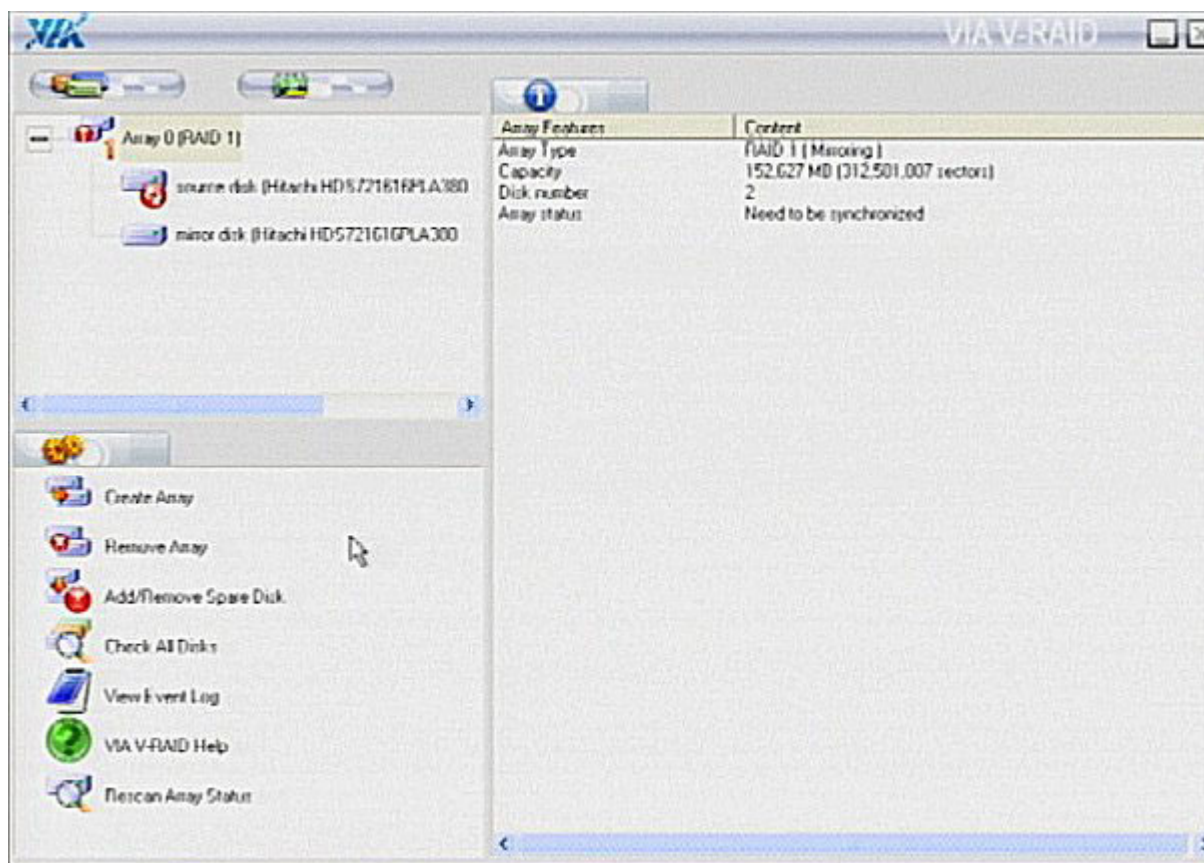

Figure 45. Disk drive failure
1. From the Microsoft Windows task bar, click the RAID icon. This icon is present only during an array rebuilding or if abnormal activity occurred, such as a failed drive. The VIA V-RAID utility opens as shown in Figure 45.